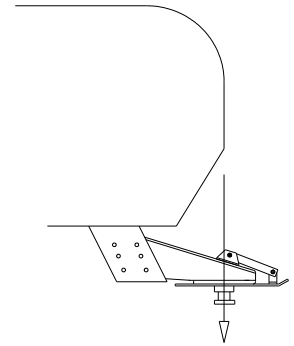

Figure 1
As a general rule, for the SuperGlide hitch to maintain proper clearance to the truck, the leading edge of the trailer (measured at the corner) should be even with the center of the king pin. (Figure 1). Most truck trailer combinations will allow 102" wide trailers if the king pin is located as described. Narrower trailers will allow the king pin to be "tucked" under the trailer over hang to some extent. Call PullRite technical support with trailer width, make and year of truck and distance the king pin is from leading edge of the trailer. 1-800-443-2307
Using a trailer that has a long rear slope to the King Pin Box Hangar, "B" in (Figure 1), may cause damage to the trailer or truck bed during turns. Dimension "B" must be less than one half the width of the inside top edges of the bed. Please call PullRite technical support, 1-800-443-2307, if more information concerning this problem is needed.
2. See figure 1. The bolt holes and appropriate bolts are listed and labeled by letters.
1. Position the bracket on the frame using the locator hole (A) seen in figure 1.
2. Install fasteners (B) at the existing hole. See Figure 1.